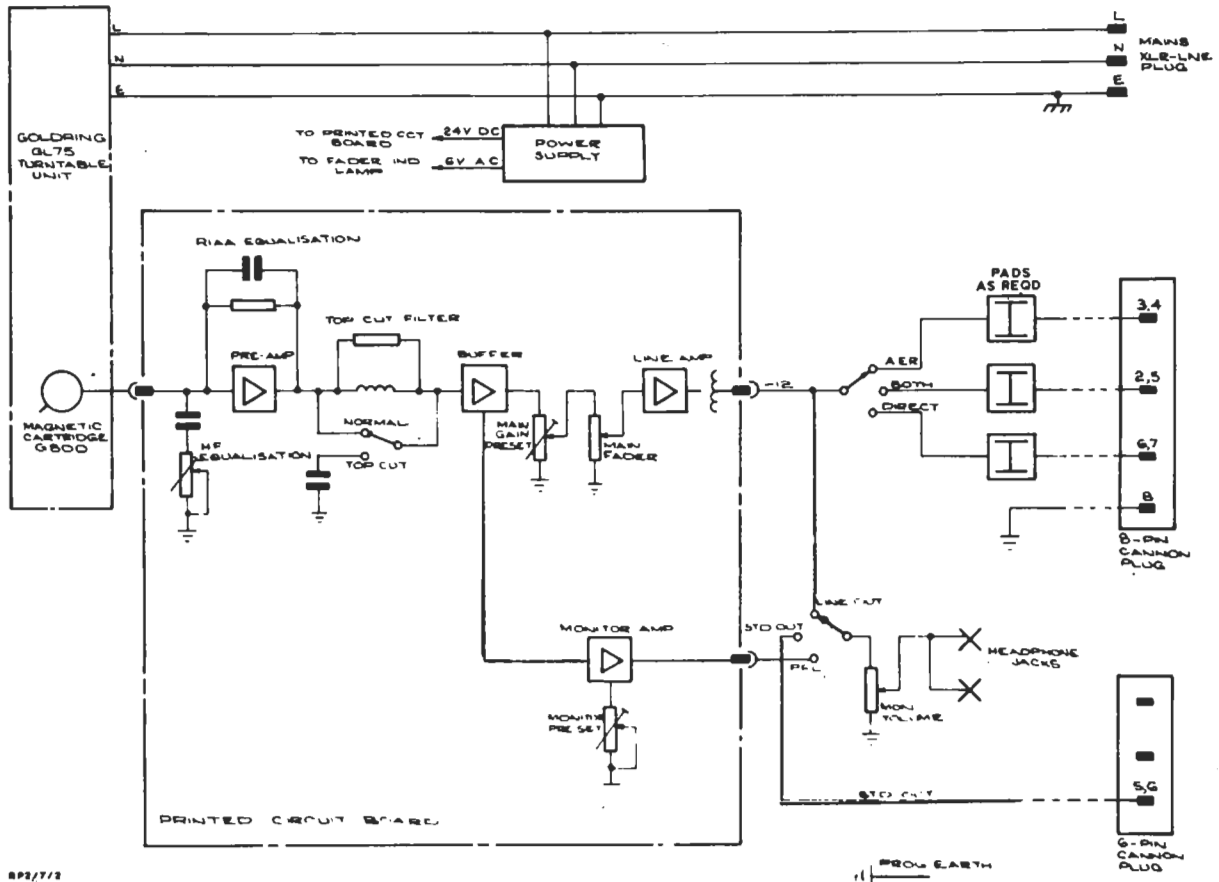

Fig. 2 Block Diagram of the RP2/7
**Programme Circuit (Figs. 2, 7 and 8)**
A block diagram of the programme circuit of the RP2/7 in given in Fig. 2, a detailed amplifier circuit is shown in Fig. 7 and the overall circuit of the machine is shown in Fig. 8.
**Line-up Procedure (Figs. 2 and 8)**